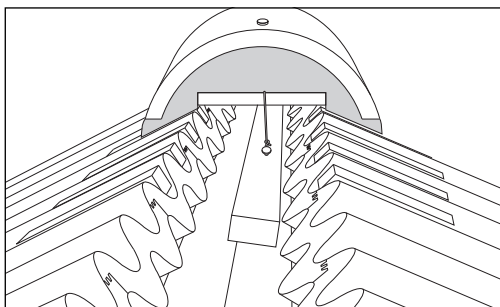

Fig 22 – Security Ridge fixing at gable ends (concrete ridges)
- 5 Use Security Hip tiles for a distance of 900mm from face of rigid masonry supports, abutments, or separating walls (see Fig 22, page 64).
- 7 Drive a nail into batten and attach a Security Ridge tile to it using the galvanised wire provided in tile (Fig 22) (concrete ridges), or security strap (clay ridges).